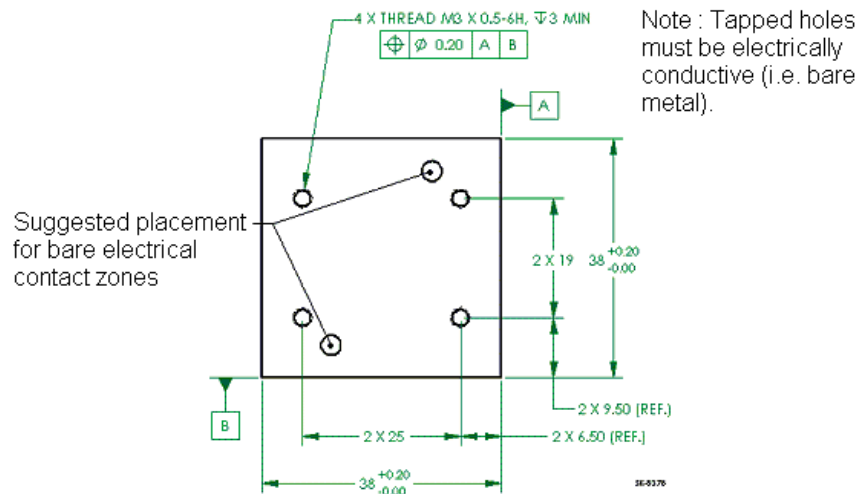

Fig. 2-1 Tapped hole positions for UP12E, without PCB
1. Required specifications for customer-supplied back module are given in Fig 2-1 through 2-3. Note that tapped holes must be electrically conductive, and that there have to be at least bare spots to allow electrical contact with the detector (see point 5.).